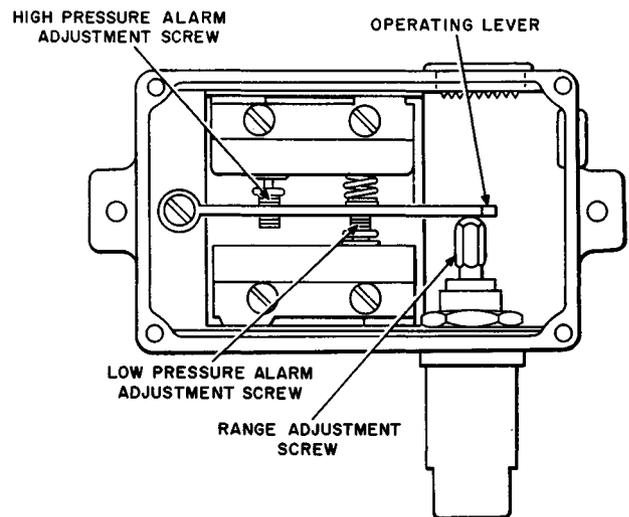

Fig. 11—High-Low Pressure Alarm
A. High Pressure Alarm (Fig. 11)
B. Low Pressure Alarm (Fig. 11)
- Turn the high pressure alarm adjustment screw (Fig. 11) using the 539A 1/4-inch wrench until the contacts just make, as observed on the test set. One-sixth turn of the screw counterclockwise increases, or clockwise decreases, the setting approximately 1.4 psi.
- Using the 1/4-inch wrench, turn the low pressure alarm adjustment screw (Fig. 11) until the contacts make, as observed on the test set. One-sixth turn of the screw counterclockwise increases, or clockwise decreases, the setting approximately 0.8 psi.
(2) Alarm with cylindrical housing